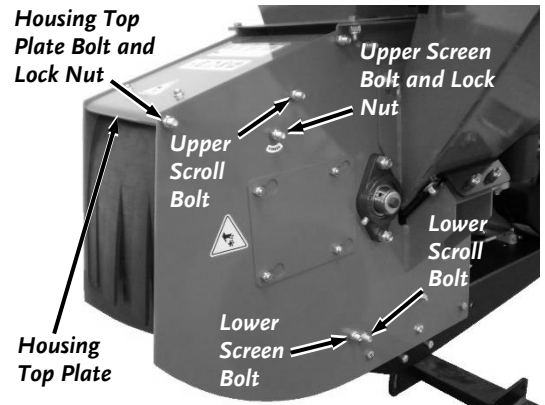

Figure 15
1. Remove the Bolt and Lock Nut securing the Housing Top Plate using two 9/16" Wrenches (**Figure 15**).
7. Reposition the Screen and reinstall the Upper Screen Retaining Bolt and Lock Nut. Tighten the Upper and Lower Screen Bolts (**Figure 15**).